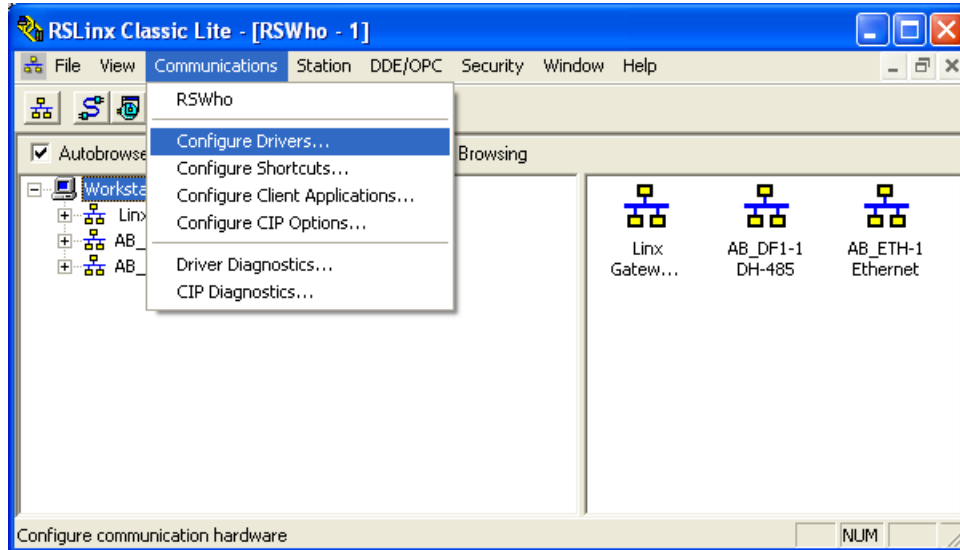

Figure 58: RSLinx Configuring Drivers
- a) Start RSLinx and navigate to Communications...Configure Drivers (see Figure 58).